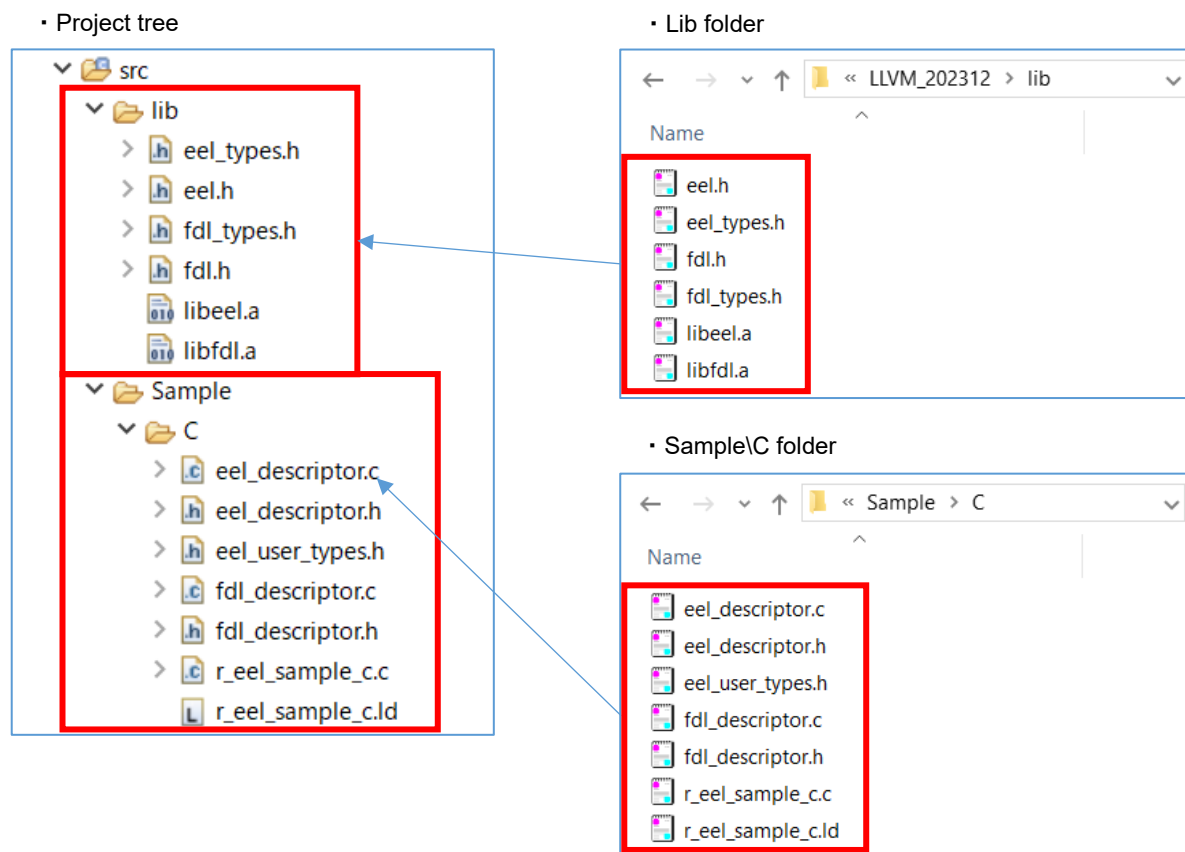

Figure 6-15. Specifying the Source and Include Files (LLVM)
- LLVM: Register "eel.h", "eel_types.h", "libeel.a", "fdl.h", "fdl_types.h" and "libfdl.a" in the "src" folder output by e² studio. Also, register descriptor files "eel_descriptor.c", "eel_descriptor.h", "eel_user_types.h", "fdl_descriptor.c", "fdl_descriptor.h" and sample program files "r_eel_sample_c.c" and "r_eel_sample_c.ld" (as shown in Figure 6-15).